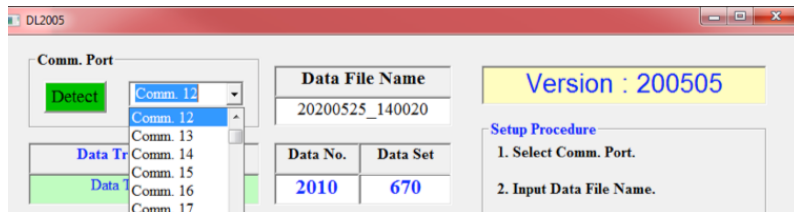

Figure 1
3. Select the appropriate COMM Port as shown in Figure 1.